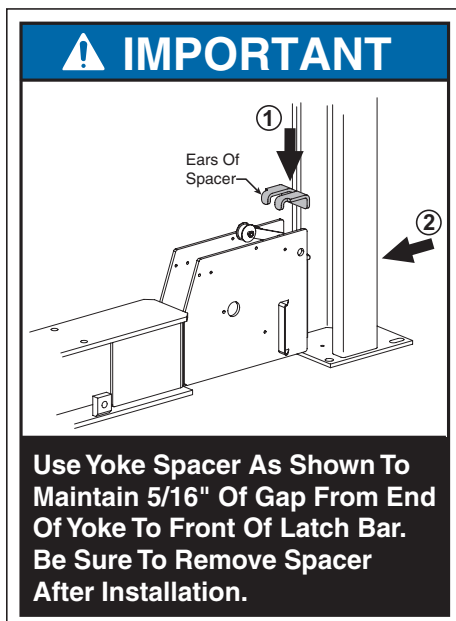

Fig. 8a
- Start with power unit column. Use yoke spacer tool to ensure  $\frac{5}{16}$ " gap between column and yoke. Place yoke spacer tool on yoke end, Fig. 8a, with ears facing away from column. Slide yoke spacer tool so that the end of the tool opposite the ears is against the side of the yoke end facing the column.